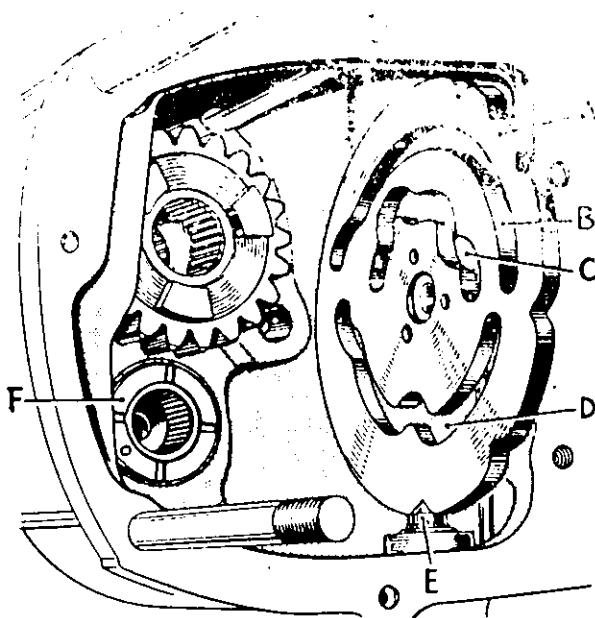

Fig. B95.
Lubricate the camplate spindle and assemble it into the spindle housing at the front of the gearbox. Ensure free movement of the plunger and spring within the large hexagon housing. fit the alloy sealing washer and screw the assembly into position. Locate the camplate in top gear position (see Fig. B95).
Lubricate the entire gear cluster ready for re-assembly and, with a smear of grease, stick the two thrust washers into position against the layshaft needle roller bearing housings. When assembled, grooves in the thrust washers must face the gears (F) Fig. B95.